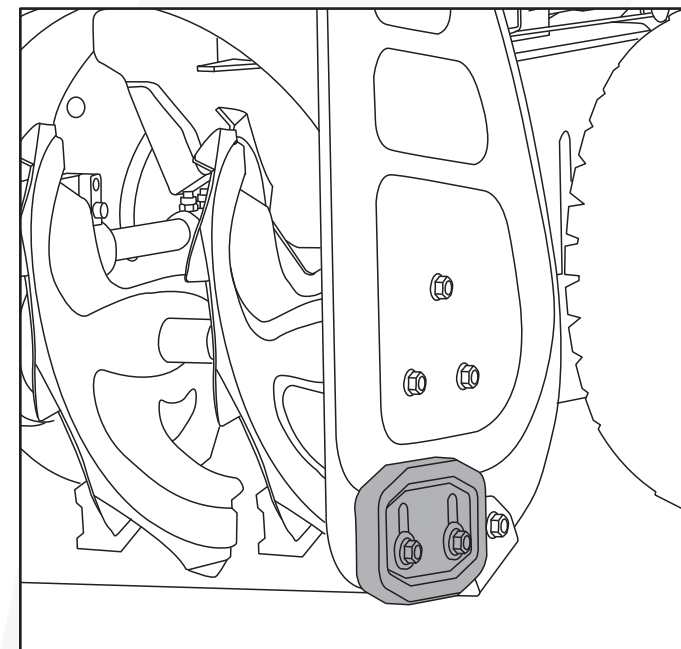

Fig. 17A
- In practice, when traveling on flat surfaces, it is common to keep the skid shoes in a lower position with the auger housing close to the ground. (Fig. 17A)